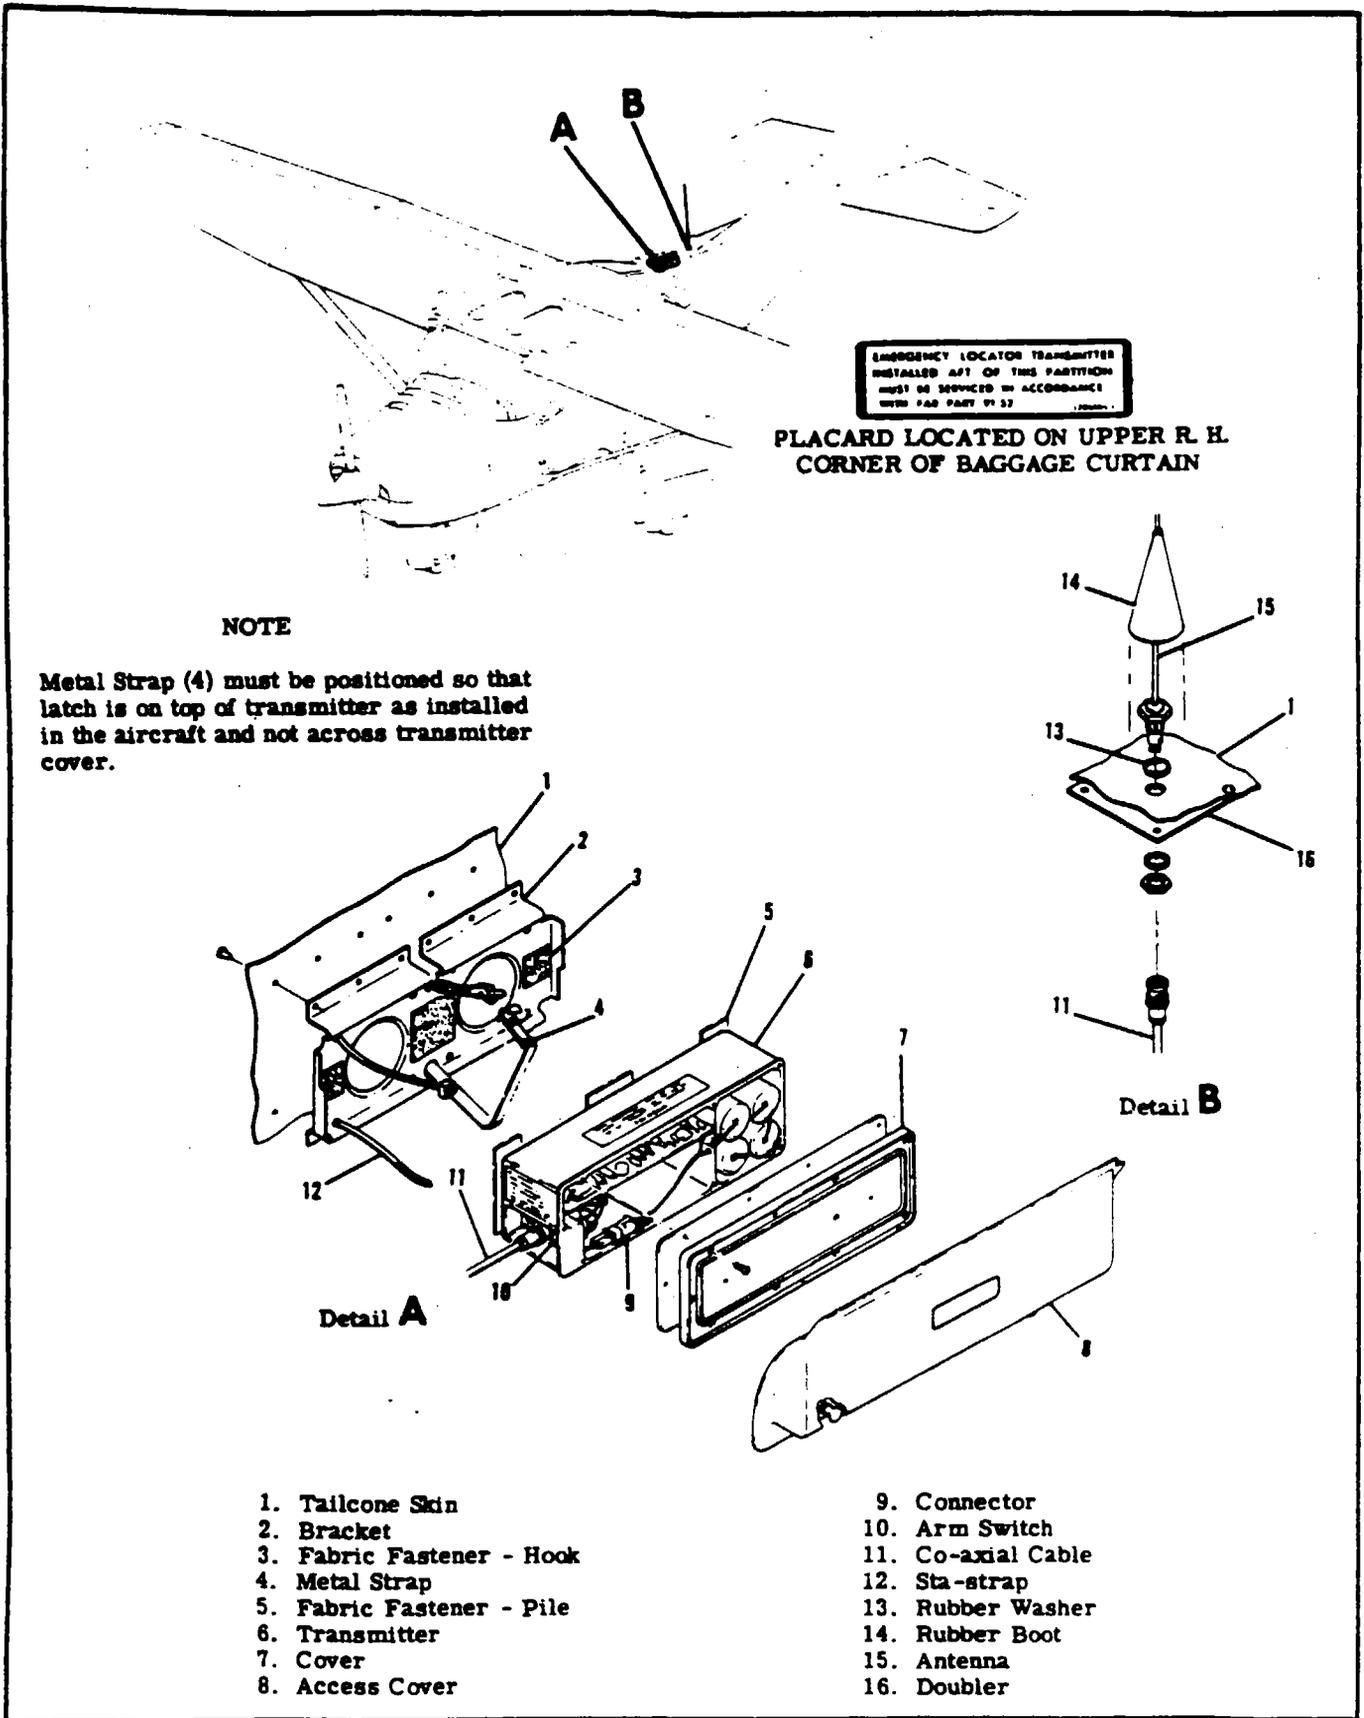

Figure 16-15. Emergency Locator Transmitter Installation
- 16-92. REMOVAL AND INSTALLATION OF TRANSMITTER. (See figure 16-15.)
- 16-93. REMOVAL AND INSTALLATION OF ANTENNA. (See figure 16-15.)